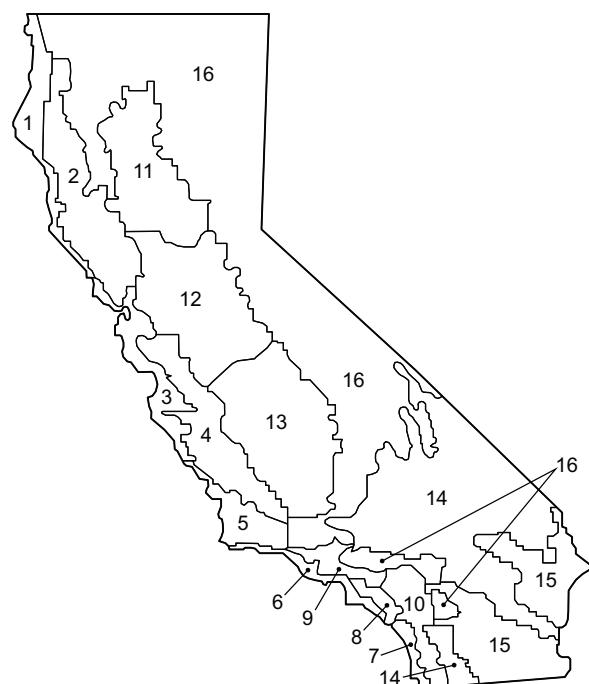

Fig. 60 — California Title 24 Zones
- Refer to Fig. 60 for map of California Title 24 zones.